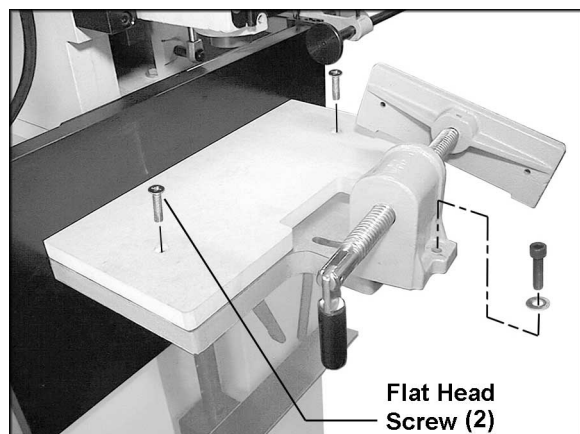

Figure 2
1. To install the wood table, first *remove* the right hand screw at the right of the clamp (Figure 2), with a 6mm hex wrench, and *loosen* the left hand screw from beneath. Pivot the clamp out of the way.